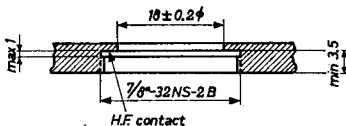

Fig.2
- 1) The eccentricities are given with respect to the axis of the threaded hole (see fig.2) in which the tube is screwed firmly against the flange with inner diameter of 18 mm
- 4) The tolerance of the eccentricity of the axis of the base is such, that this base fits into a hole with a diameter of 32.5 mm, provided this hole is correctly centred with respect to the axis of the threaded hole specified in fig.2
- 5) The tolerance of the eccentricity of the axis of the base flange is such, that this flange fits into a hole with a diameter of 33.5 mm, provided this hole is correctly centred with respect to the axis of the threaded hole specified in fig.2